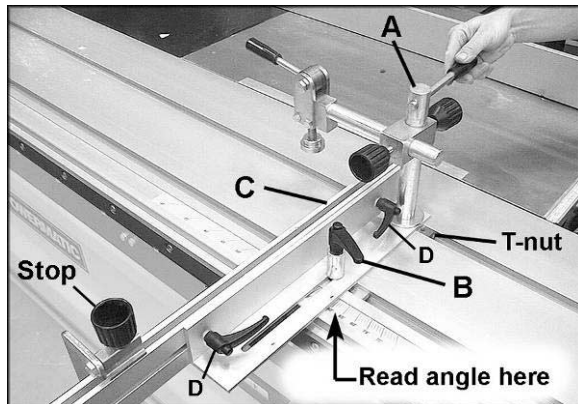

Figure 36
1. To set the required angle, unlock the rod of the clamp (A, Figure 36) with the provided tool, and loosen the handle (B, Figure 36).
2. To slide the fence (C, Figure 36) toward or away from the saw blade, loosen the two smaller handles (D, Figure 36).
3. Reading the angle is done at the edge of the aluminum bracket. An adjustable stop can be mounted to the miter fence as shown in Figure 36, for making multiple cuts of the same length.